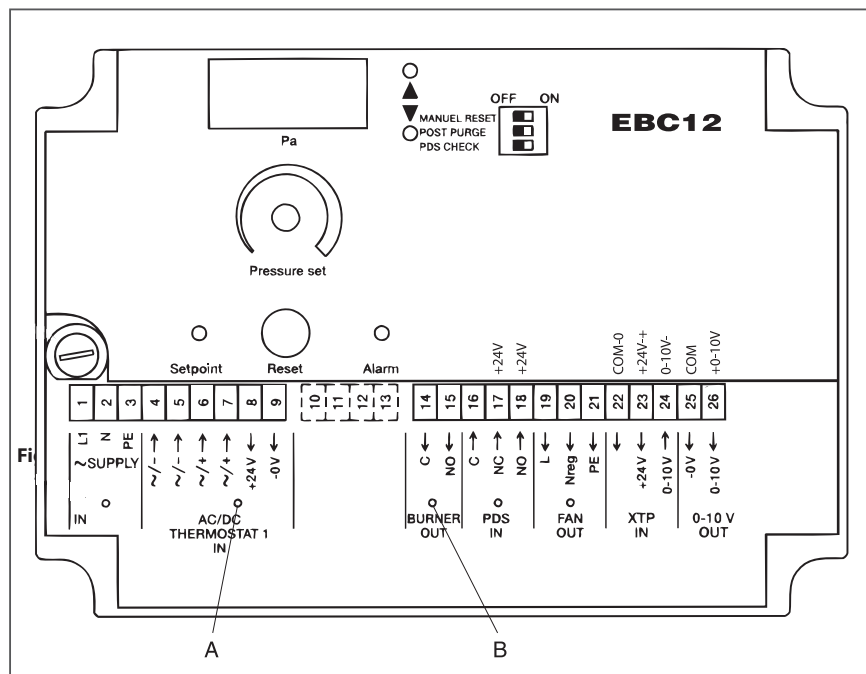

Fig. 15
2. Start the heating system and wait until the thermostat (fig. 15) closes and the draft has stabilized (none of the yellow diodes are lit).
4. Check that the safety system disconnects the appliance (fig. 15). An error can be simulated by disconnecting the tube (-) to the transducer (XTP).